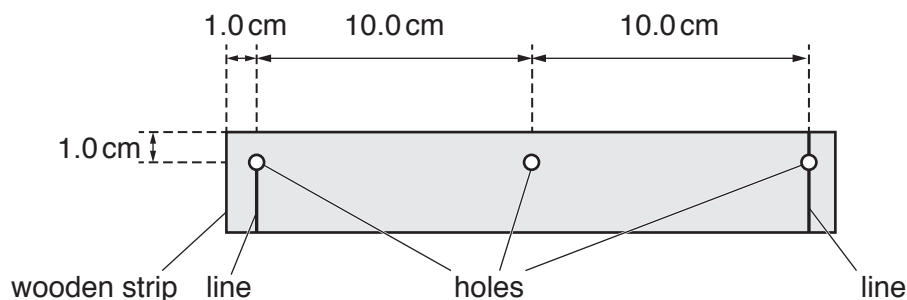

Fig. 1.1
- 1 The wooden strip should have three holes drilled through it in the positions shown in Fig. 1.1. The diameter of the holes should be approximately 0.5 mm greater than the diameter of the nail.
Using a fine permanent marker pen, lines should be drawn on one face of the strip in the positions shown in Fig. 1.1.